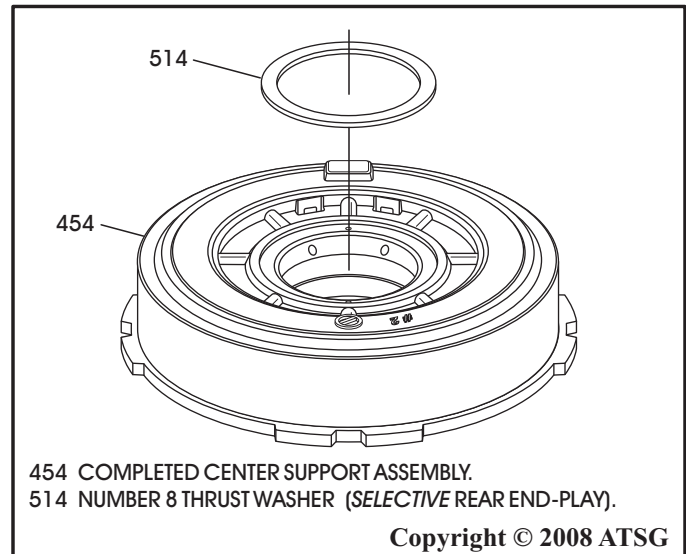

Figure 117
16. Install the number 8 selective thrust washer on the center support, as shown in Figure 117, and retain with a small amount of Trans-Jel®.